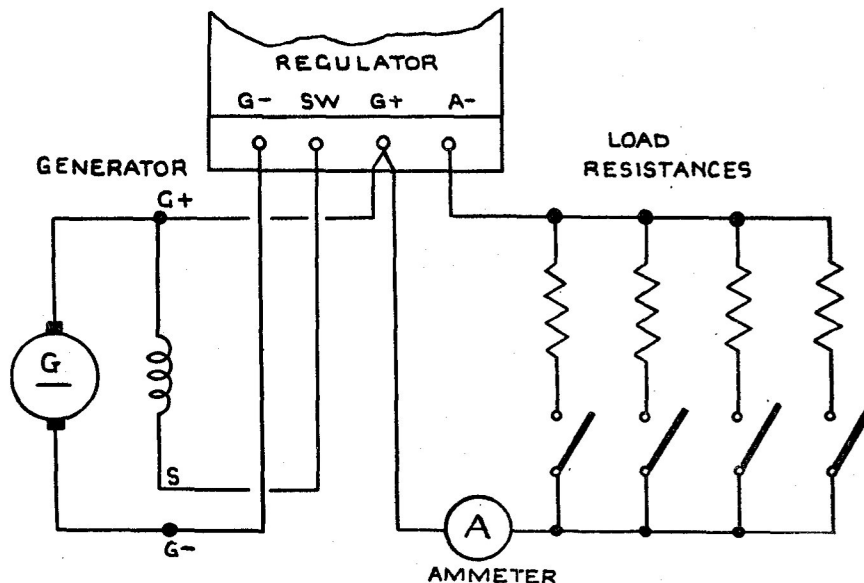

Fig. 3. Test circuit diagram
24. With the generator connected in the appropriate test circuit (*fig. 3*), run up on no load to approximately 3,300 r.p.m. There should be no hesitation in build up and the correct voltage should be attained.